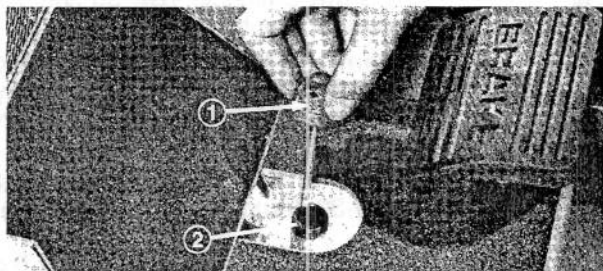

Figure 16
2. Remove dipstick cap (Fig. 16) from filler neck and wipe it with a clean rag. Screw dipstick cap finger-tight onto filler neck; then remove it and check level of fluid. If level is not within 1/2 inch (13 mm) from the groove in the dipstick (Fig. 16), add SAE 10W-30 engine oil, or, if used, automatic transmission fluid to raise level to groove mark. Do not overfill.